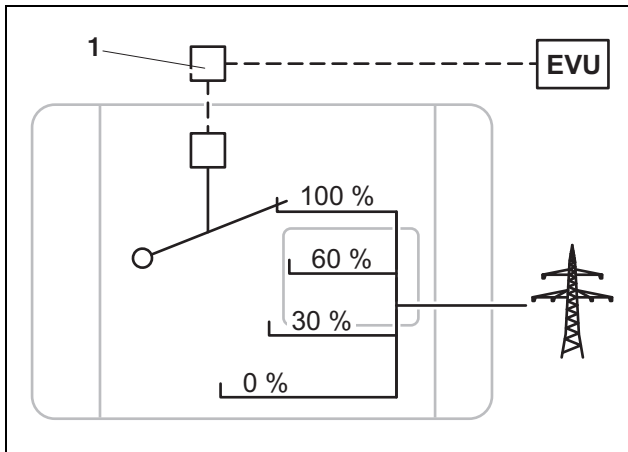

Fig. 8: Active power control with a ripple control signal receiver
The active power of the PIKO inverter can be controlled directly by the energy supply company via a ripple control signal receiver (1). With this technology, the generated power can be regulated at four levels (see Fig. 8).